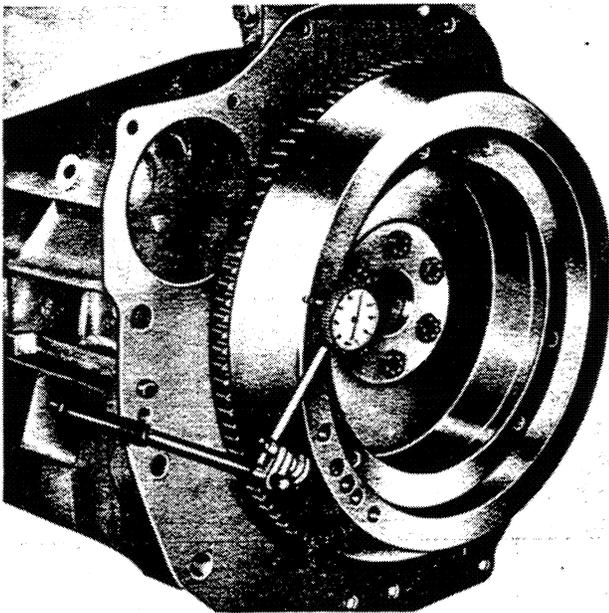

Figure 39
3. Before removing the flywheel attaching bolts, check the runout with a dial indicator, see Figure 39. Remove the six flywheel attaching bolts. Tap the flywheel with a soft mallet or hammer to loosen it on the crankshaft. Lift the flywheel from the crankshaft.